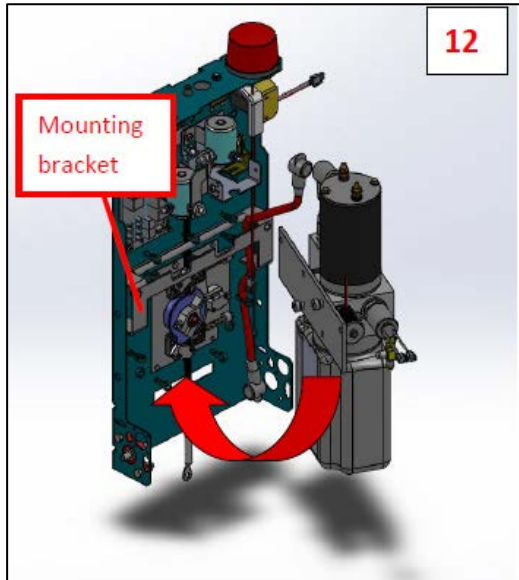

Figure 12: Line Up the Pump and Mounting Bracket
15. Place the pump assembly against the mounting bracket on the chassis assembly. See **Figure 12**.